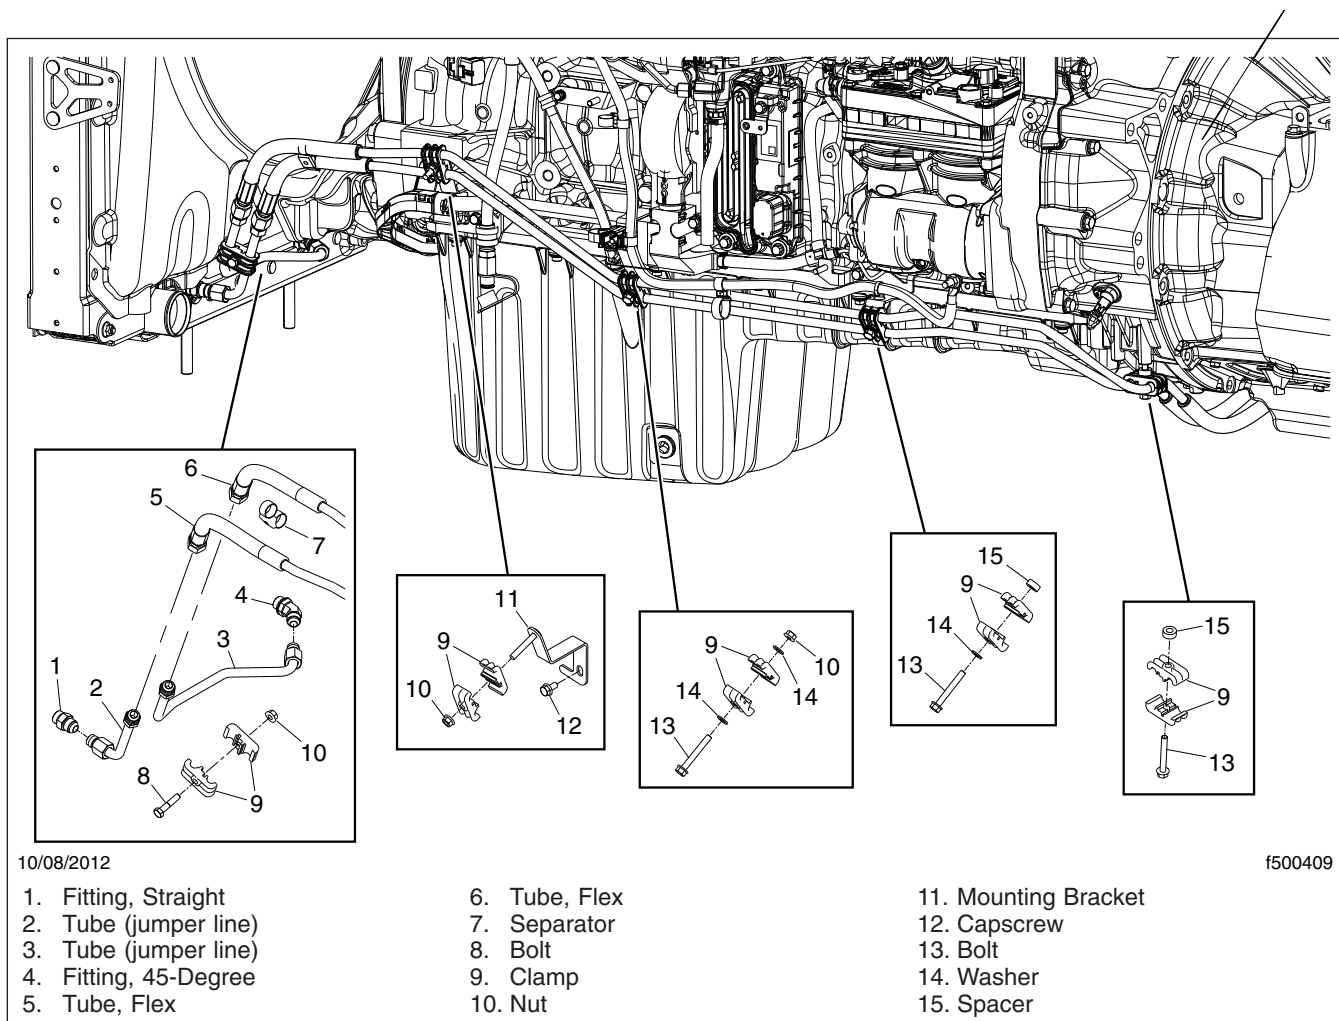
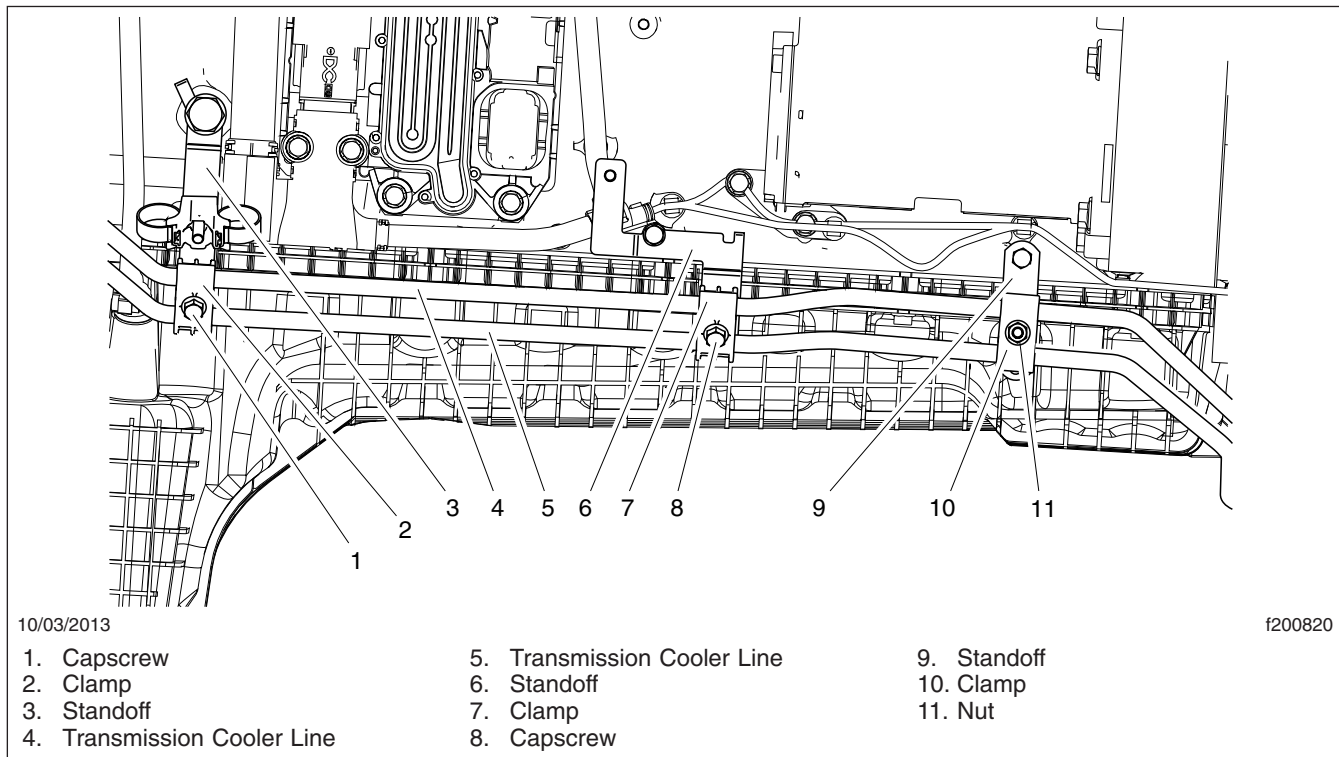
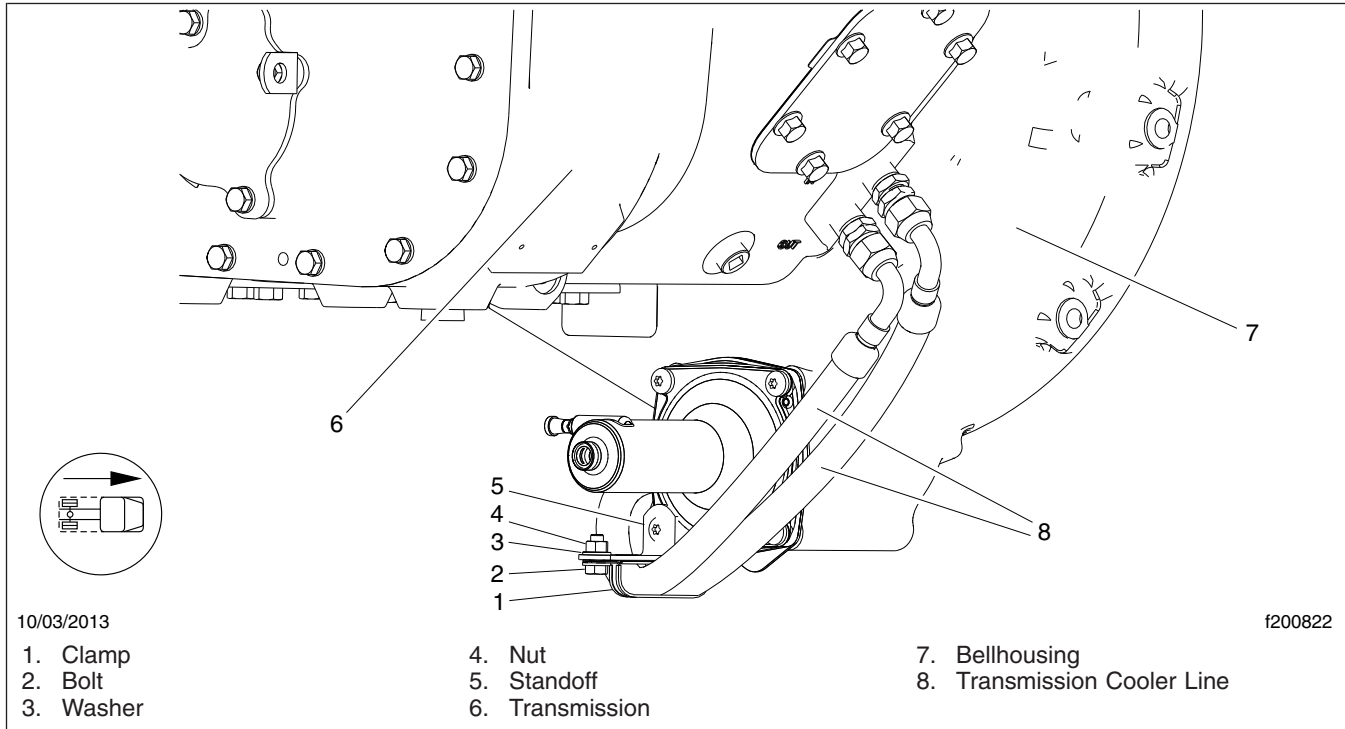

Fig. 5, Transmission Cooler Line Installation (typical)
Fig. 8, Transmission Cooler Line Bracket Installation
Fig. 9, Transmission Cooler Line and Bracket Installation
21. Remove the transmission cooler lines and discard them. Cap or plug the fittings at the transmission and on the lines to prevent spills. See Fig. 5.
See Fig. 5, Fig. 8, Fig. 9, and Fig. 10 for transmission cooler line and bracket installation. For vehicle-specific plumbing diagrams refer to EZWiring in PartsPro.